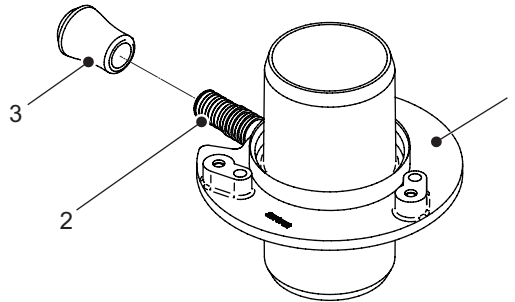

Figure 8: Steam Adapter
- a. Install and secure the end cap (supplied) to the steam adapter pressure port with a spring clamp (supplied). Refer to Figure 8.